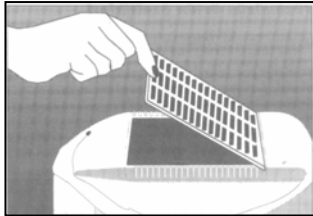

Fig. 15
- Depending on the amount of use, you can wash the filter while it is inside the cover or pry open the compartment where it is placed and remove the filter to wash separately. Fig. 15